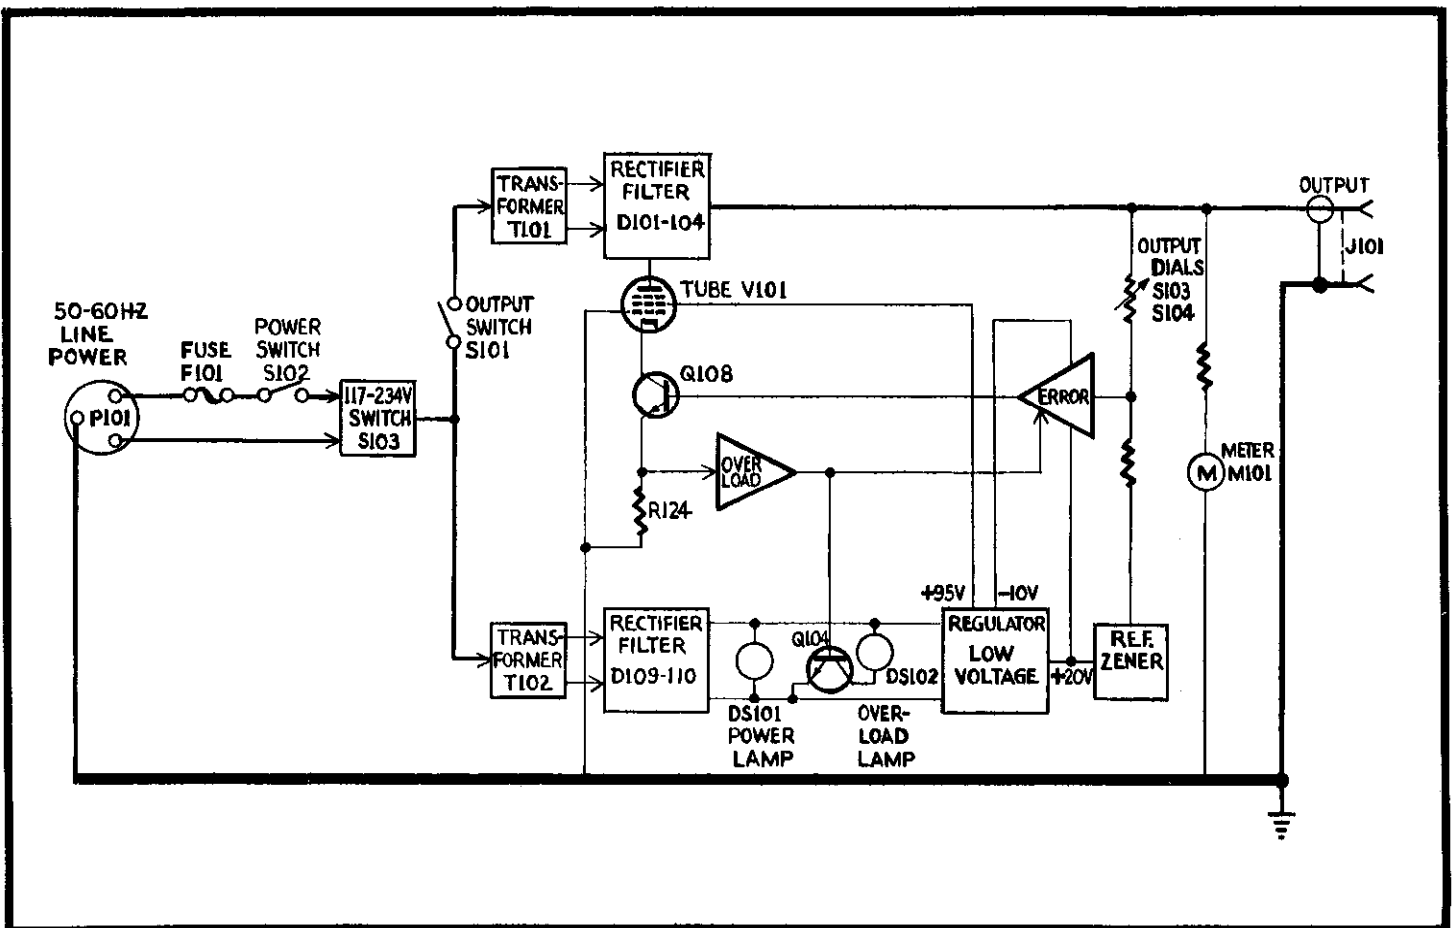

FIGURE 5. Simplified Circuit Diagram.
a. The Model 244 High Voltage Supply has been designed to provide an accurate voltage from -200 to -2200 volts d-c. A simplified circuit diagram is shown in Figure 5.